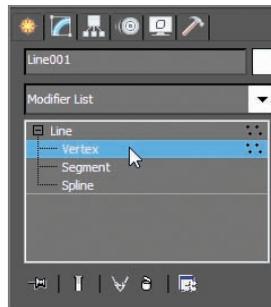

FIGURE 2.21 The three sub-objects of the Line command, select Vertex.
6. Select Vertex, as shown in Figure 2.21.